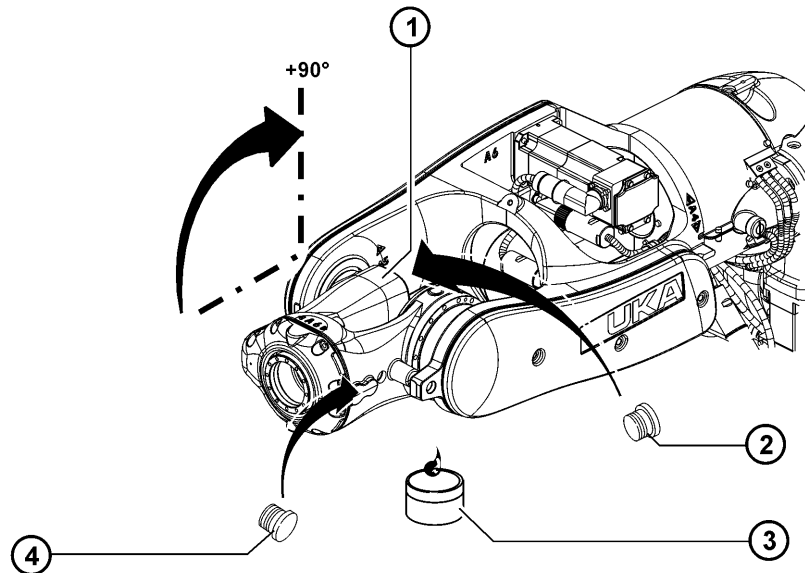

Fig. 9-8: Oil change on wrist A6
7. Remove the rear magnetic screw plugs (>>> Fig. 9-8) from the housing.